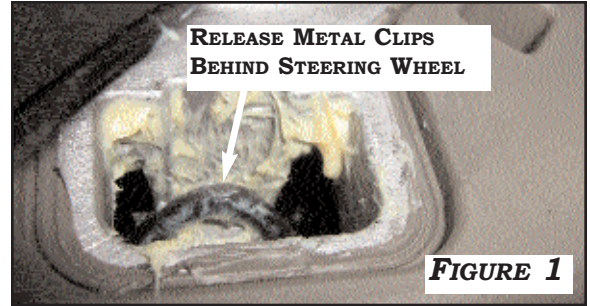

FIGURE 1
1. DISCONNECT THE CABLE FROM THE NEGATIVE TERMINAL OF THE BATTERY. **FIGURE 1**
2. REMOVE STEERING COLUMN SHROUD. REMOVE AIRBAG BY USING FLAT HEAD SCREWDRIVER TO RELEASE (3) METAL CLIPS AS SHOWN IN **FIGURES 1,2.**